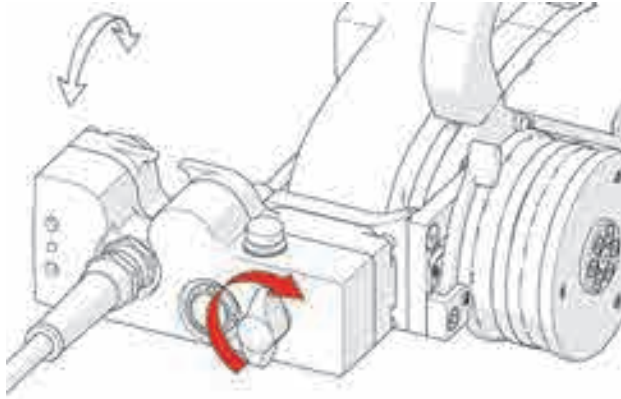

Figure 4-11 Tighten the black wing knob
3. Fasten the umbilical to the SteerROVER scanner's umbilical mount by tightening the black wing knob (see Figure 4-11 on page 100).